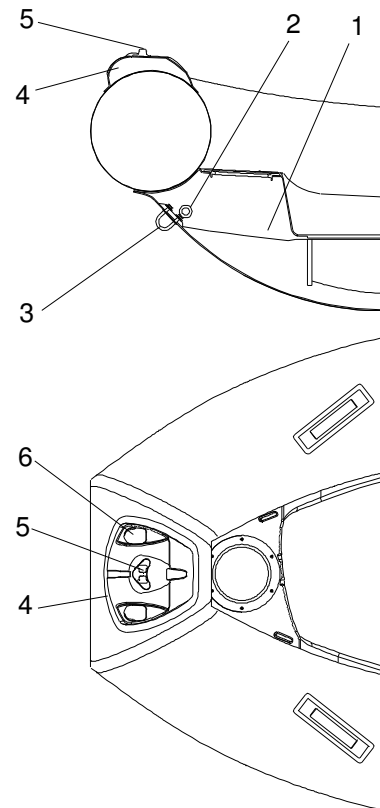

Fig.D11
On the boat there is space to accommodate the anchor (Fig.D11).
For bow mooring you can use inner ring (2) and hawes (5) Fig.D11, but only in calm water for a short time.
In this case the mooring rope must be laid through the hawes (5) Fig.D11 to avoid damage of the boat tube and navigation lights (6)Fig.D11.
If you are leaving the boat and there is a possibility of rough water or strong wind, use only bow U-bolts (3) Fig.D11 to bow mooring.